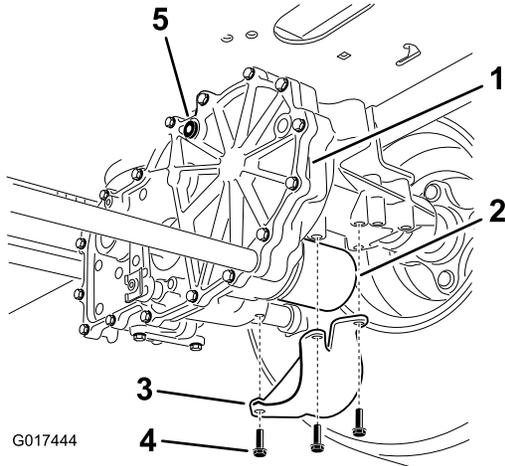

Figure 83
4. Locate the filter and guards on each transaxle-drive system (Figure 83).
5. Remove the 3 screws securing the filter guard and guard (Figure 83).